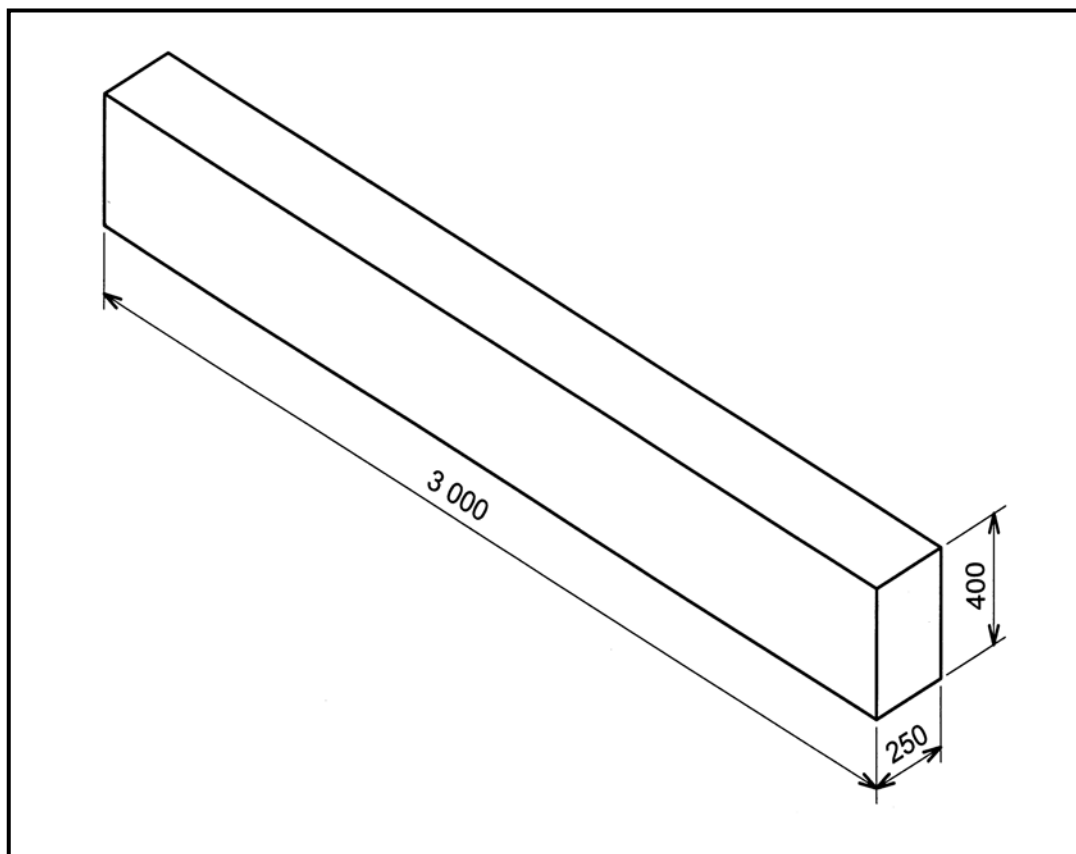

FIGURE 2.3
2.3 FIGURE 2.3 shows a simple reinforced concrete beam.